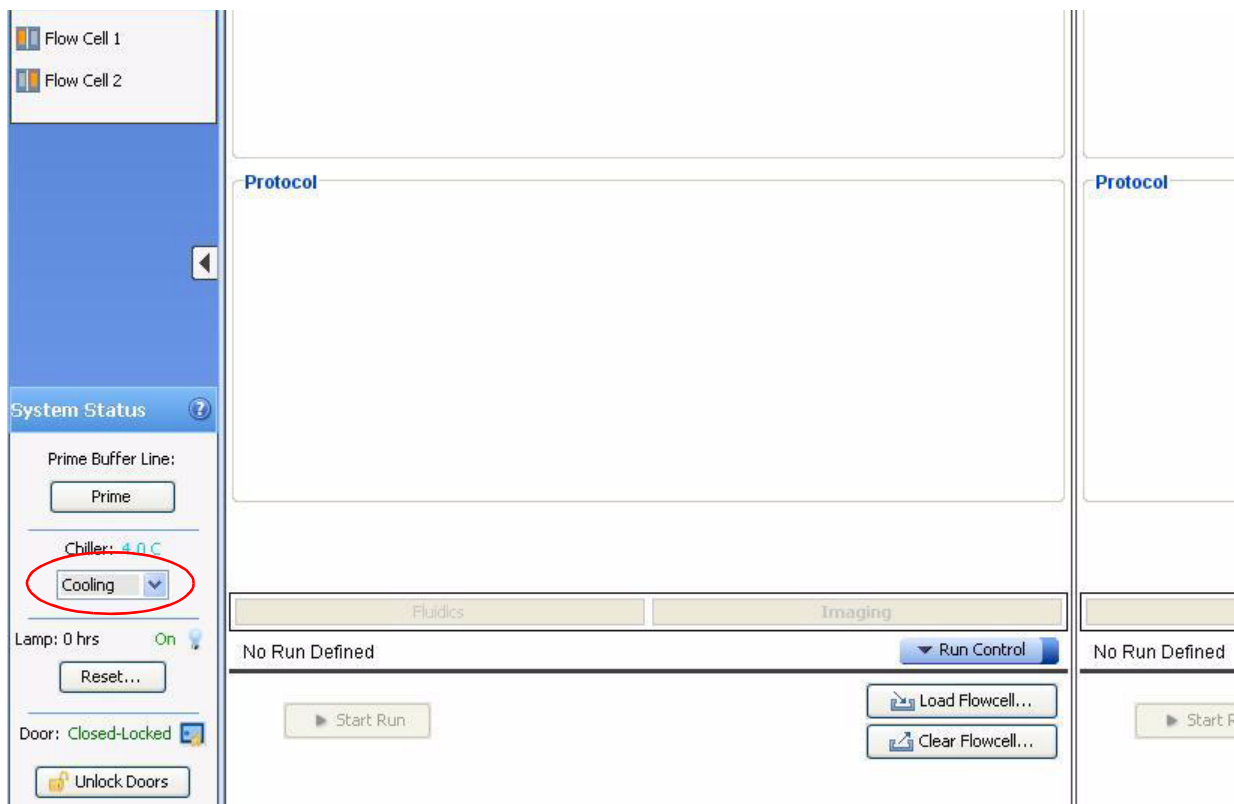

Figure 11 Select **Cooling** to cool the flowcell.
3. Under the System Status menu, select **Cooling** from the Chiller drop-down menu (see Figure 11).
**!** **IMPORTANT!** Ensure that the chiller block temperature is below 10 °C before proceeding with reagent strip installation. Under the System Status menu, select **Cooling** from the Chiller drop-down menu (see Figure 11 on page 33).